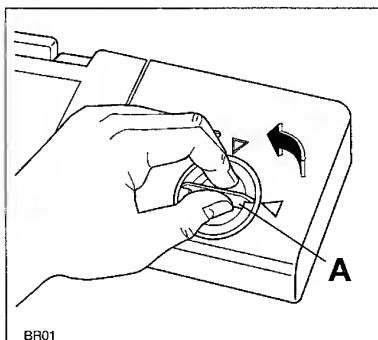

Fig 4
Open the container by turning the lid (A) anticlockwise (Fig. 4). Pour the rinse-aid into the filler opening until the indicator (B) on the side of the cover turns completely dark (i.e. until the container is full)